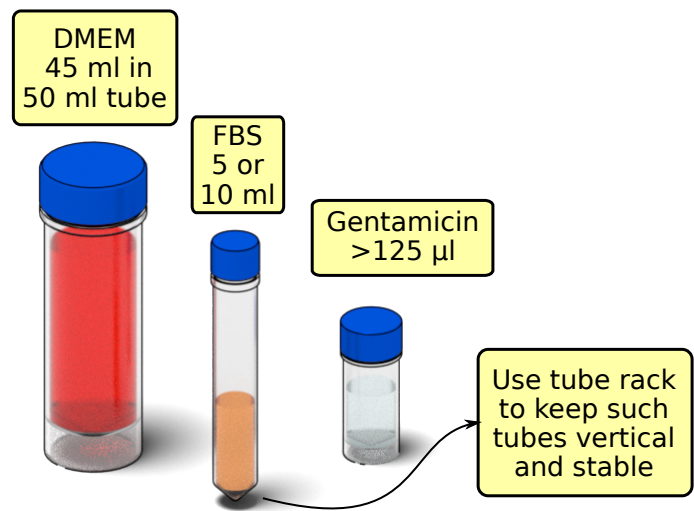

Fig. 2.5. Aliquotes required to prepare DMEM+
A portion of 50 mL of DMEM+ is prepared using the following components, see table 2.1 and fig. 2.5, notice that you can take a 10 mL aliquot of FBS and remove 5 mL then put it back into freezer and use the next time.
- 1.2. Check if all aliquotes are available (see. table 2.1 and fig. 2.5). You need to pick one antibiotic, don't use both